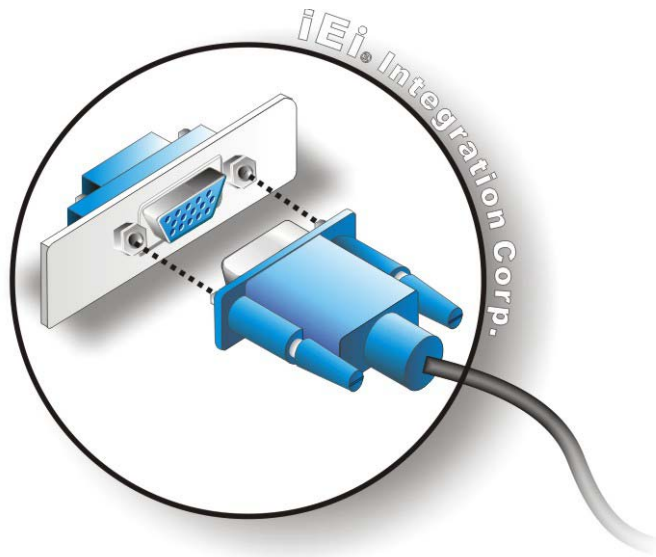

Figure 3-26: VGA Connector
- Step 3:** **Insert the VGA connector** Once the connectors are properly aligned with, insert the male connector from the VGA screen into the female connector on the TANK-820-H61. See **Figure 3-26**.